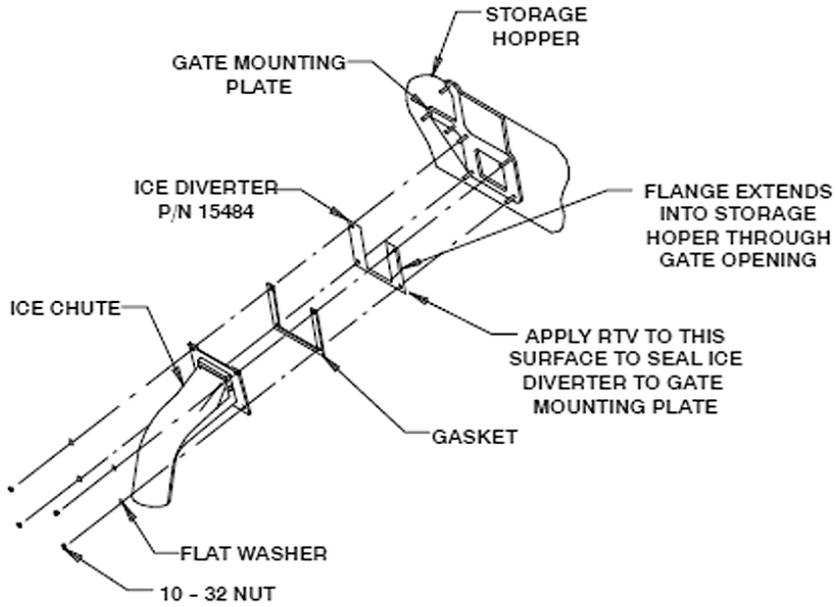

Figure 3. Ice Diverter Installation
7. Install the ice diverter (item 10) on the dispenser according to the procedure shown in Figure 3.
### Ice Diverter Installation Instructions (see Figure 3):